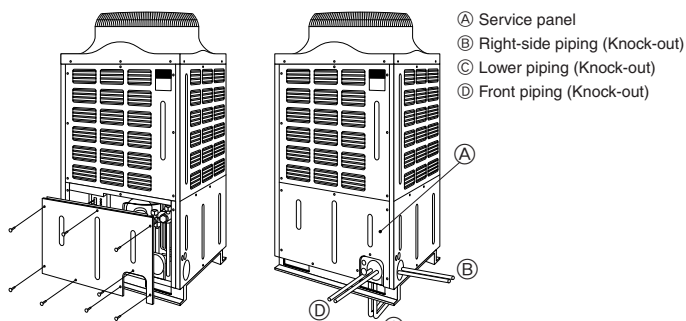

Fig. 5-4
5.3. Refrigerant piping (Fig. 5-4)